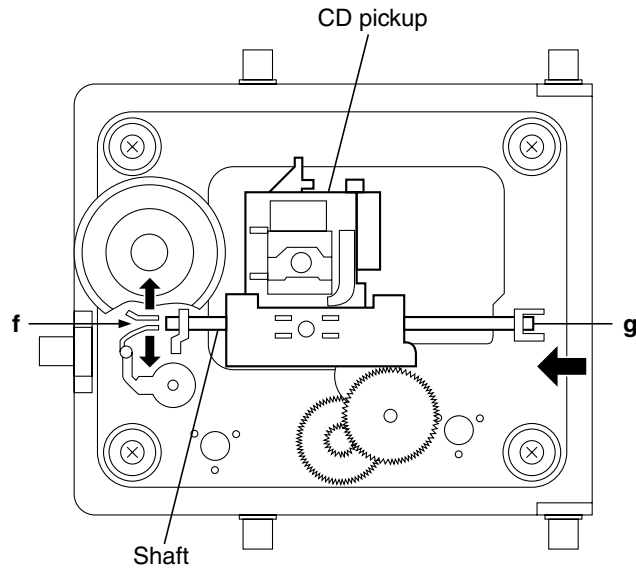

Fig.16
■ **Removing the CD pickup (See Fig.16)**